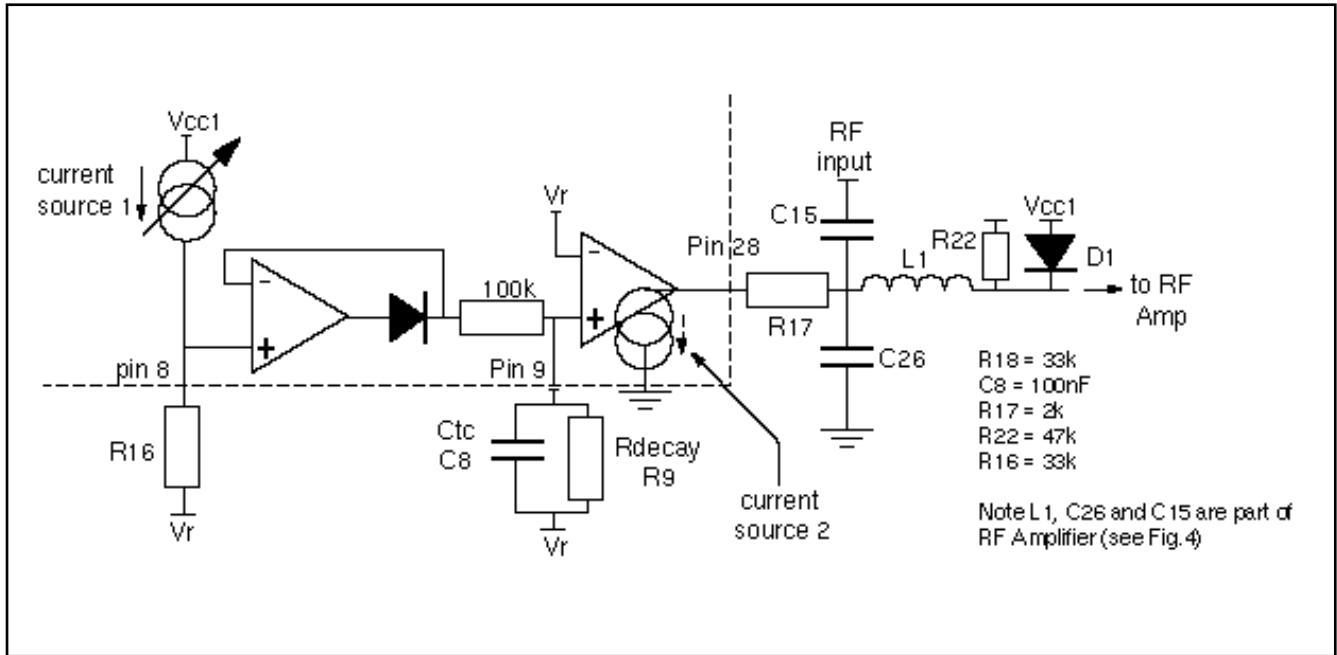
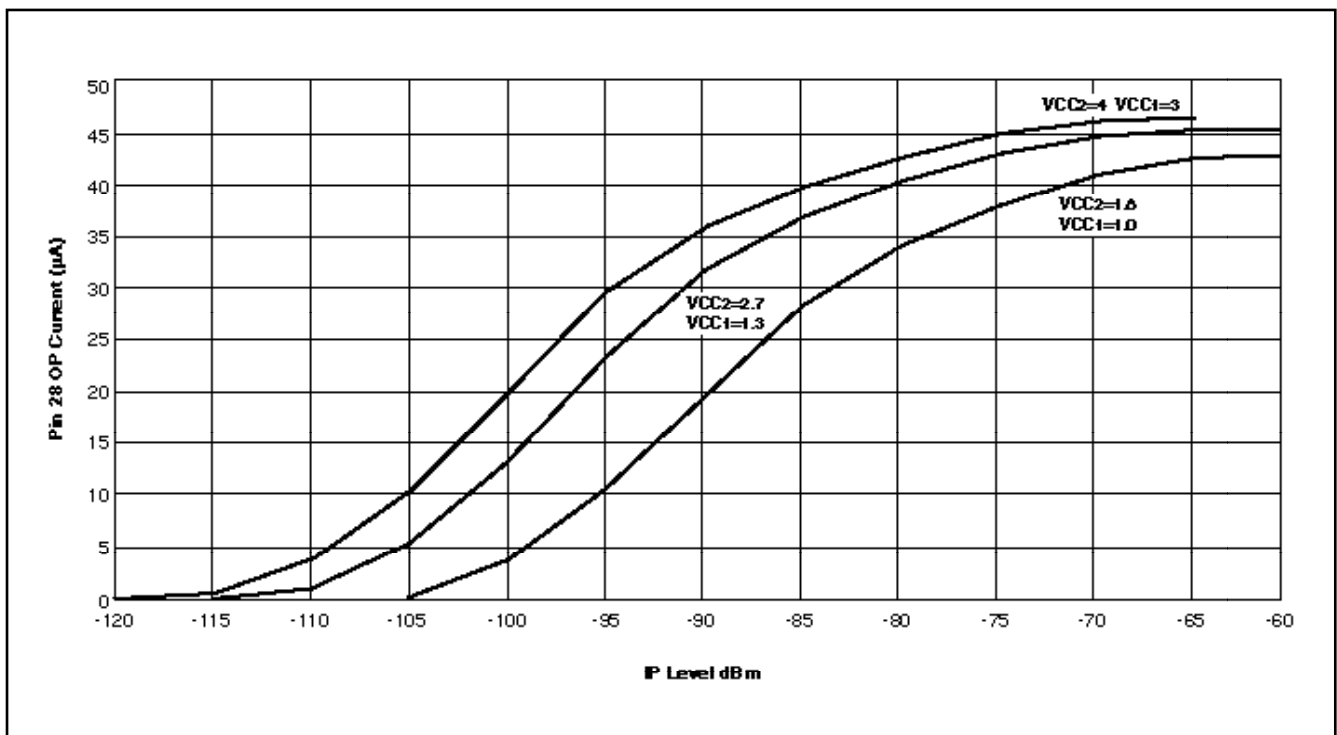

Fig.6 AGC Schematic
Fig.7 Audio AGC current vs. IP power at 25°C
(IAGCOUT) to Vcc1., (R18). The voltage at Pin 8 may still be used as an RSSI. R9, C8, C14, C19, R17 and D1 may then be omitted. See figure.6 for AGC component values.
5. Suggested diode for use with the Audio AGC circuit (see figure.6) (D1 is not included on the general demonstration circuit).
4. R17 forms a part of the audio AGC circuit (see figure 6) and is determined by the voltage drop required to make the PIN diode D1, conduct to give the RF attenuation required. R17 should be sufficiently large to ensure the voltage at pin 28 does not drop below 200mV. The maximum AGC current expected is 85µA. For the characteristics of the audio AGC current source see figure 7. If the audio AGC is not required then the current source (Pin 28) may be disabled by connecting Pin 9 (TCADJ) to VR (pin 6) and by connecting Pin 28 (IAGCOUT) to Vcc1., (R18). The voltage at Pin 8 may still be used as an RSSI. R9, C8, C14, C19, R17 and D1 may then be omitted.